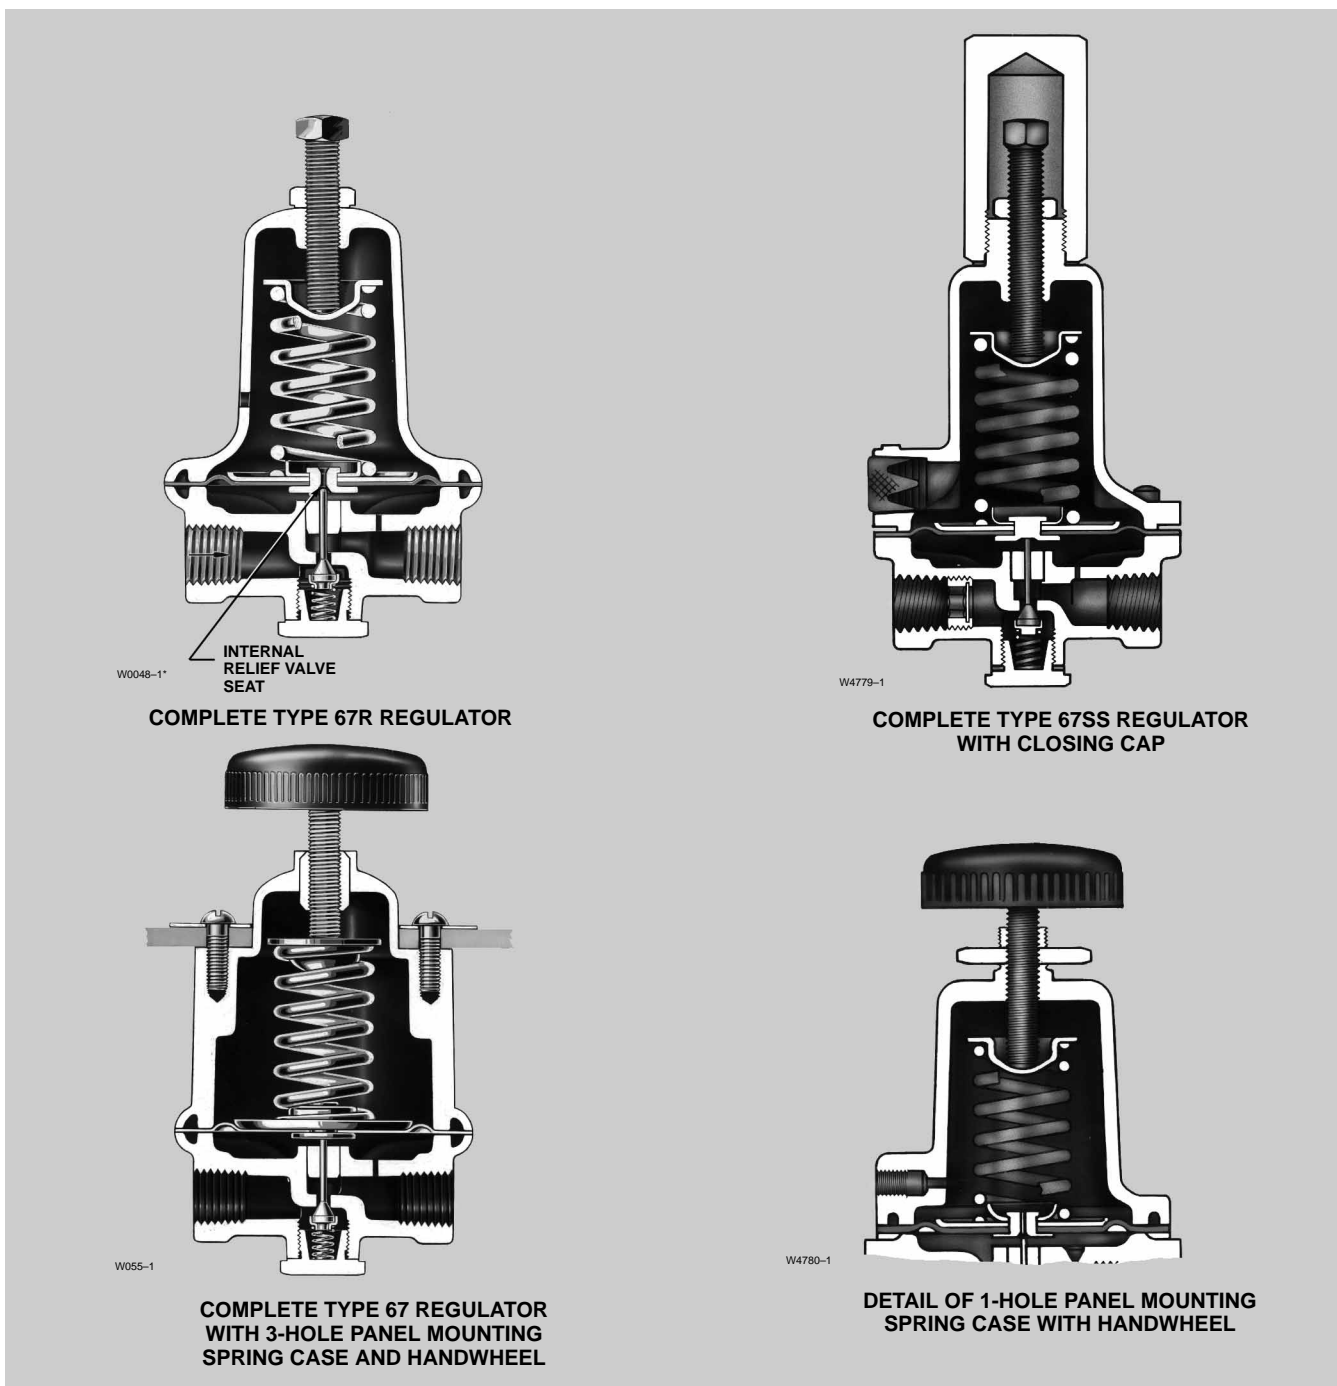

Figure 3. Construction Features of Regulators Without Filters
- **Panel Mounting**—Some 67 Series regulators are available with either 1-hole or 3-hole panel mounting (figure 3).